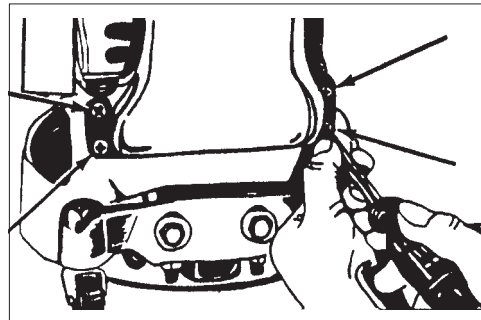

Figure 7
1. Remove the four screws that hold the exhaust pipe to the housing. See figure 7.